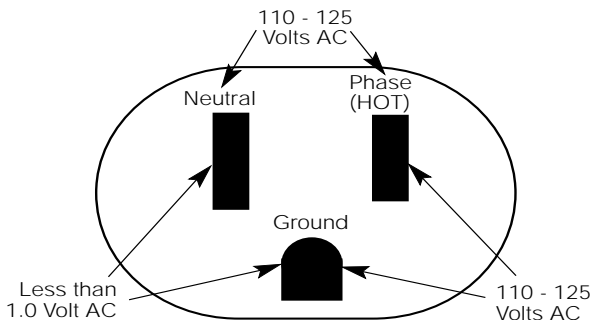

Figure 2-2. Measuring the AC Outlet Voltages
- ▶ **2. Measure the AC outlet voltages. See Figure 2-2.**